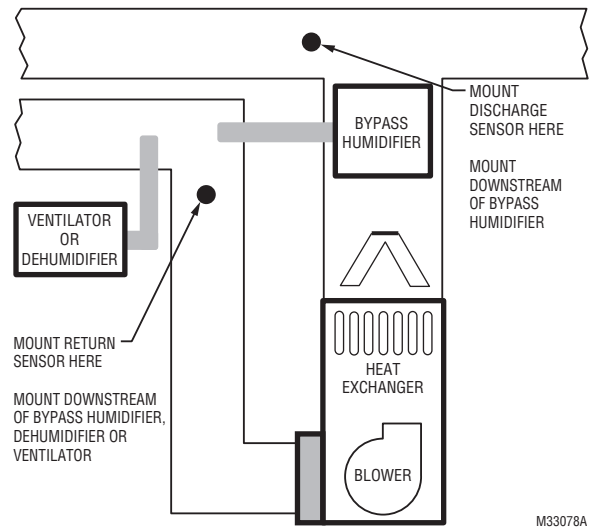

Fig. 8.
4. If a Bypass Humidifier is installed, mount the Discharge Air Temperature Sensor downstream of the Bypass Humidifier. See Fig. 8–9.